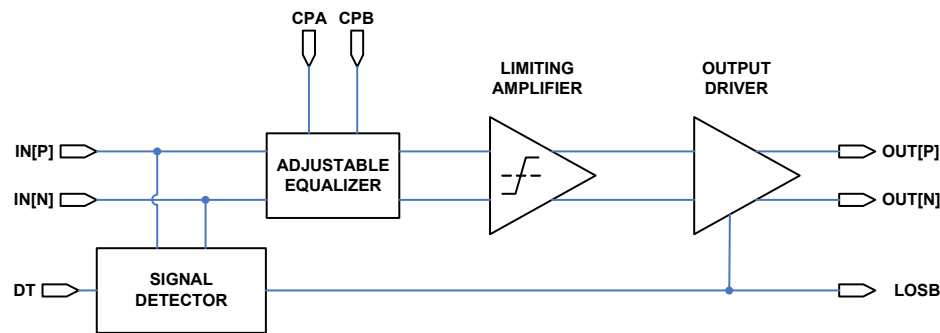

FIGURE 4. FUNCTIONAL DIAGRAM OF A SINGLE CHANNEL WITHIN THE ISL36411
The ISL36411 is an advanced quad lane-extender for high-speed interconnects. A functional diagram of one of the four channels in the ISL36411 is shown in Figure 4. In addition to a robust equalization filter to compensate for channel loss and restore signal fidelity, the ISL36411 contains unique integrated features to preserve special signaling protocols typically broken by other equalizers. The signal detect function is used to mute the channel output when the equalized signal falls below the level determined by the Detection Threshold (DT) pin voltage. This function is intended to preserve periods of line silence (“quiescent state” in InfiniBand contexts). Furthermore, the output of the signal detect/DT comparator is used as a Loss Of Signal (LOS) indicator to indicate the absence of a received signal.
As illustrated in Figure 4, the core of each high-speed signal path in the ISL36411 is a sophisticated equalizer followed by a limiting amplifier. The equalizer compensates for skin loss, dielectric loss and impedance discontinuities in the transmission channel. Each equalizer is followed by a limiting amplification stage that provides a clean output signal with full amplitude swing and fast rise-fall times for reliable signal decoding in a subsequent receiver.